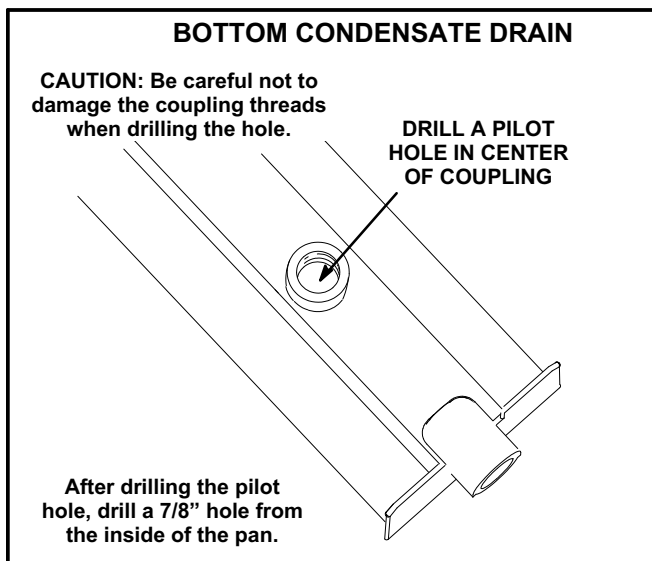

**FIGURE 6**
- 4- Lift front edge of the drain pan (to clear bottom drain plug) and slide drain pan out of unit. See figure 6.